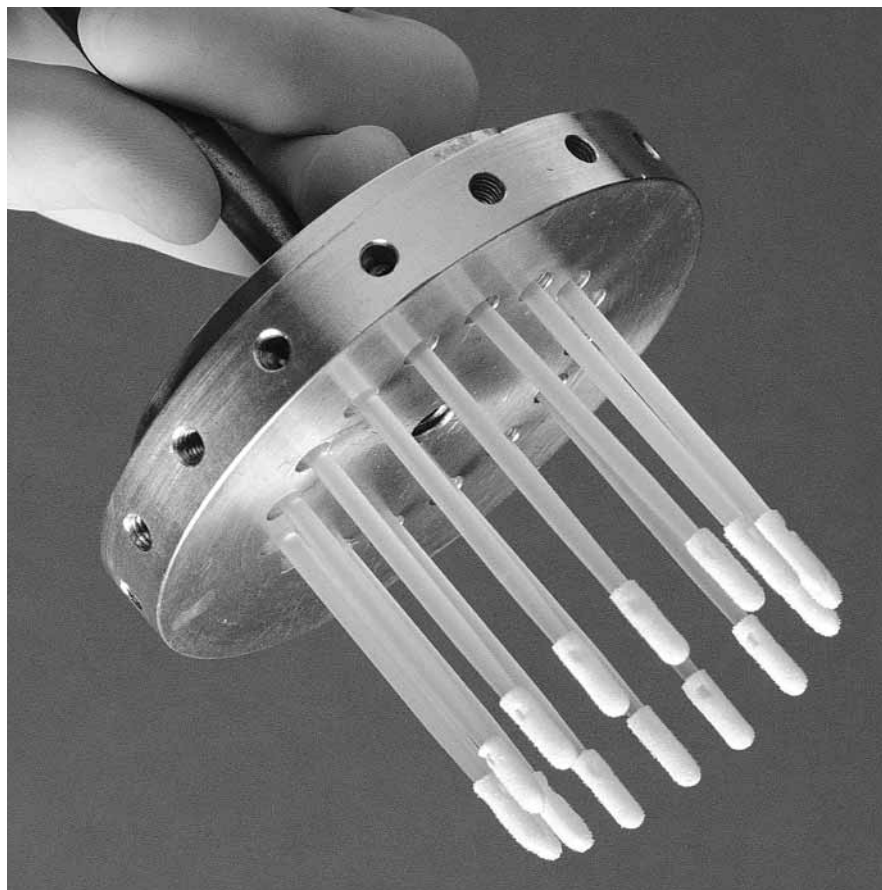

Figure 1: Aluminum disc for suspending swabs
- Multiple-hole, swab-suspending aluminum disc to accommodate 15–20 swabs, with spring-loaded screws and suspending bar (see Figure 1)
- Secure a known number of swabs in the holes of the swab suspending-disc (see Figure 1), which should be held in place over the beaker of solvent with a clamp and stand, suspended with the swab heads pointing downward.